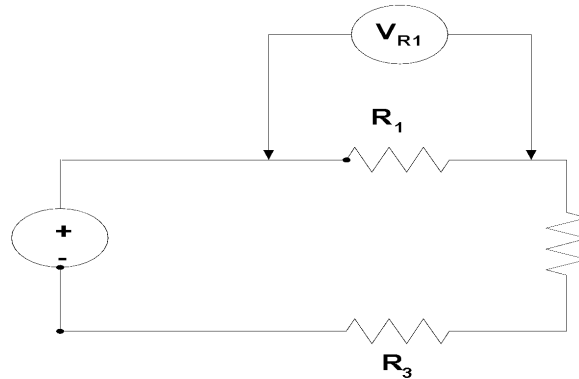

Figure 3.3. Voltage drop measurement of Series Conductors
- 1.5 Measure and record the voltage drop of each resistor and the source voltage on Table 3.2 based on Figure 3.3.